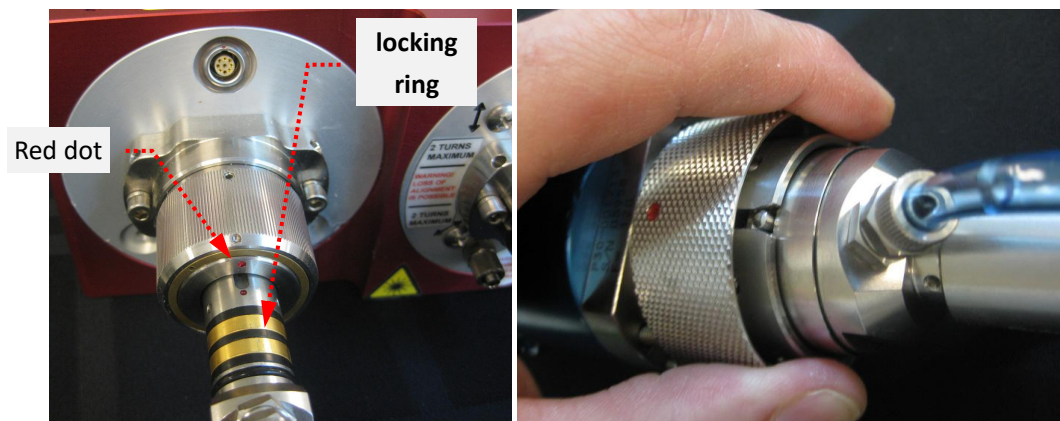

Figure 17 QBH insertion into the laser head
d) Insert QBH into laser processing head: Place the laser head horizontally to prevent dust from falling into it, and align the clean QBH connector horizontally with the QBH interface. Find the red dots on the QBH and the connector of laser head, align the red dots to connect them into a straight line, and plug the QBH into the laser head. Rotate the QBH locking ring clockwise to fix it, lift the locking ring up, and turn the locking ring clockwise again to complete the locking. Check whether the QBH locking ring is secure, as shown in Figure 17.